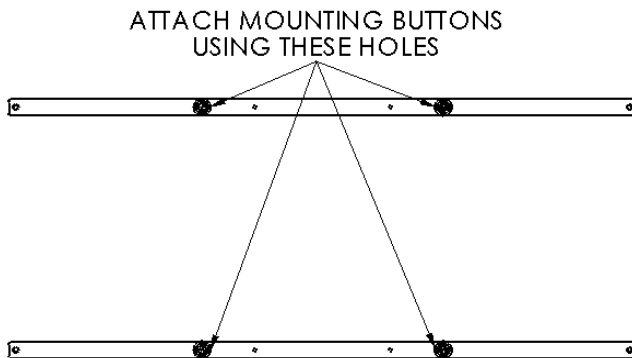
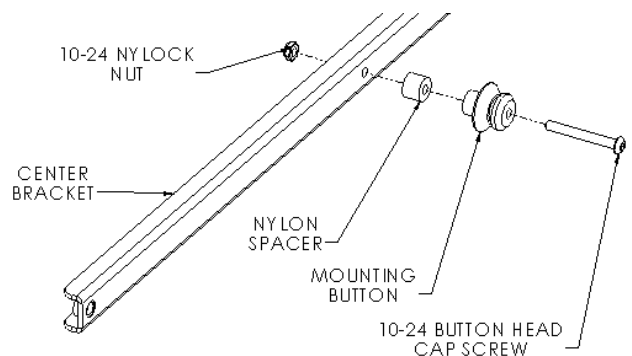

Figure 2
Figure 3
1. Using a 10-24 button head cap screw, nylon spacer and nylock nut, secure mounting button to center bracket (four places) (see Figure 2 & Figure 3).